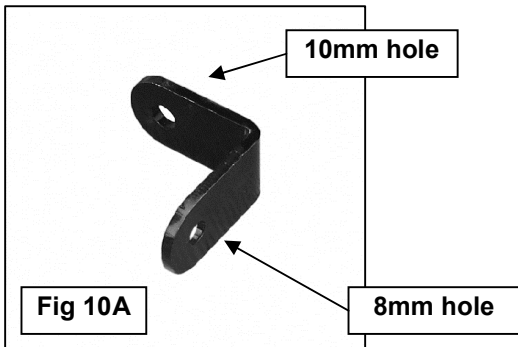
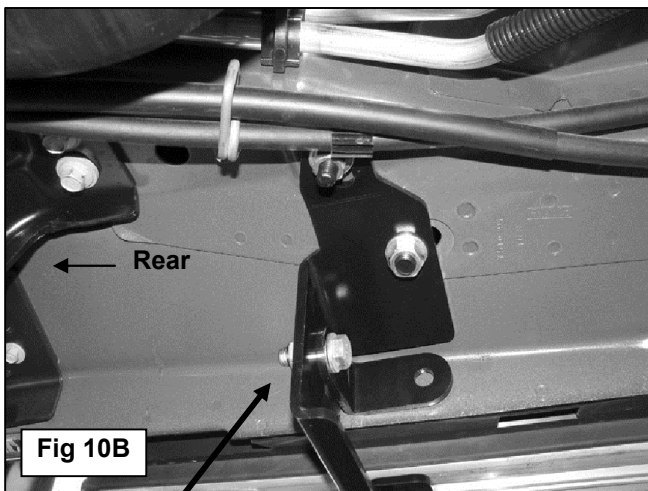

Fig 10A
Fig 10B
8. Position the Rear Mounting Bracket over the (2) Bolt Plates. Secure the Bracket to the 12mm Bolt Plate with (1) 12mm Flat Washer, (1) 12mm Lock Washer and (1) 12mm Hex Nut, **(Figure 10B)**. Bolt the Bracket to the 10mm Bolt Plate with (1) 10mm x 27mm OD Large Flat Washer, (1) 10mm Lock Washer and (1) 10mm Hex Nut. Snug hardware but do not tighten at this time.
9. Next, select (1) "L" rear Support Bracket, **(Figure 10A)**. Bolt the Support Bracket to the front facing side of the rear Mounting Bracket with (1) 10mm x 30mm Hex Bolt, (2) 10mm x 20mm STD Flat Washers and (1) 10mm Nylon Lock Nut, **(Figures 10B)**. Do not tighten hardware at this time.